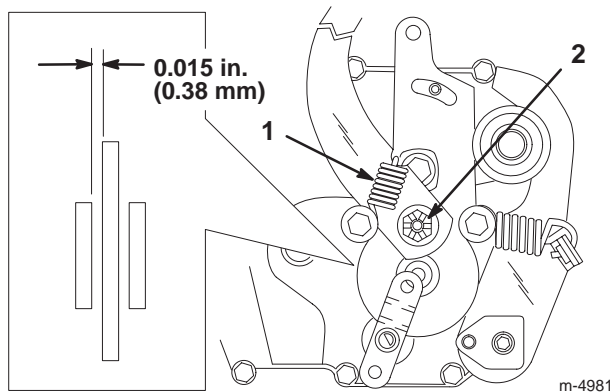

Figure 22
The brake is on the right side of the rear axle, inside the rear tire (Fig. 22). If the brake does not hold securely or stopping power is insufficient, an adjustment is required.
2. Remove the brake arm spring (Fig. 22).
3. Remove the cotter pin that secures the brake adjusting nut and slightly loosen the nut (Fig. 22).
4. Insert a 0.015 in. (0.38 mm) feeler gauge between the brake disc and the brake puck (Fig. 22).